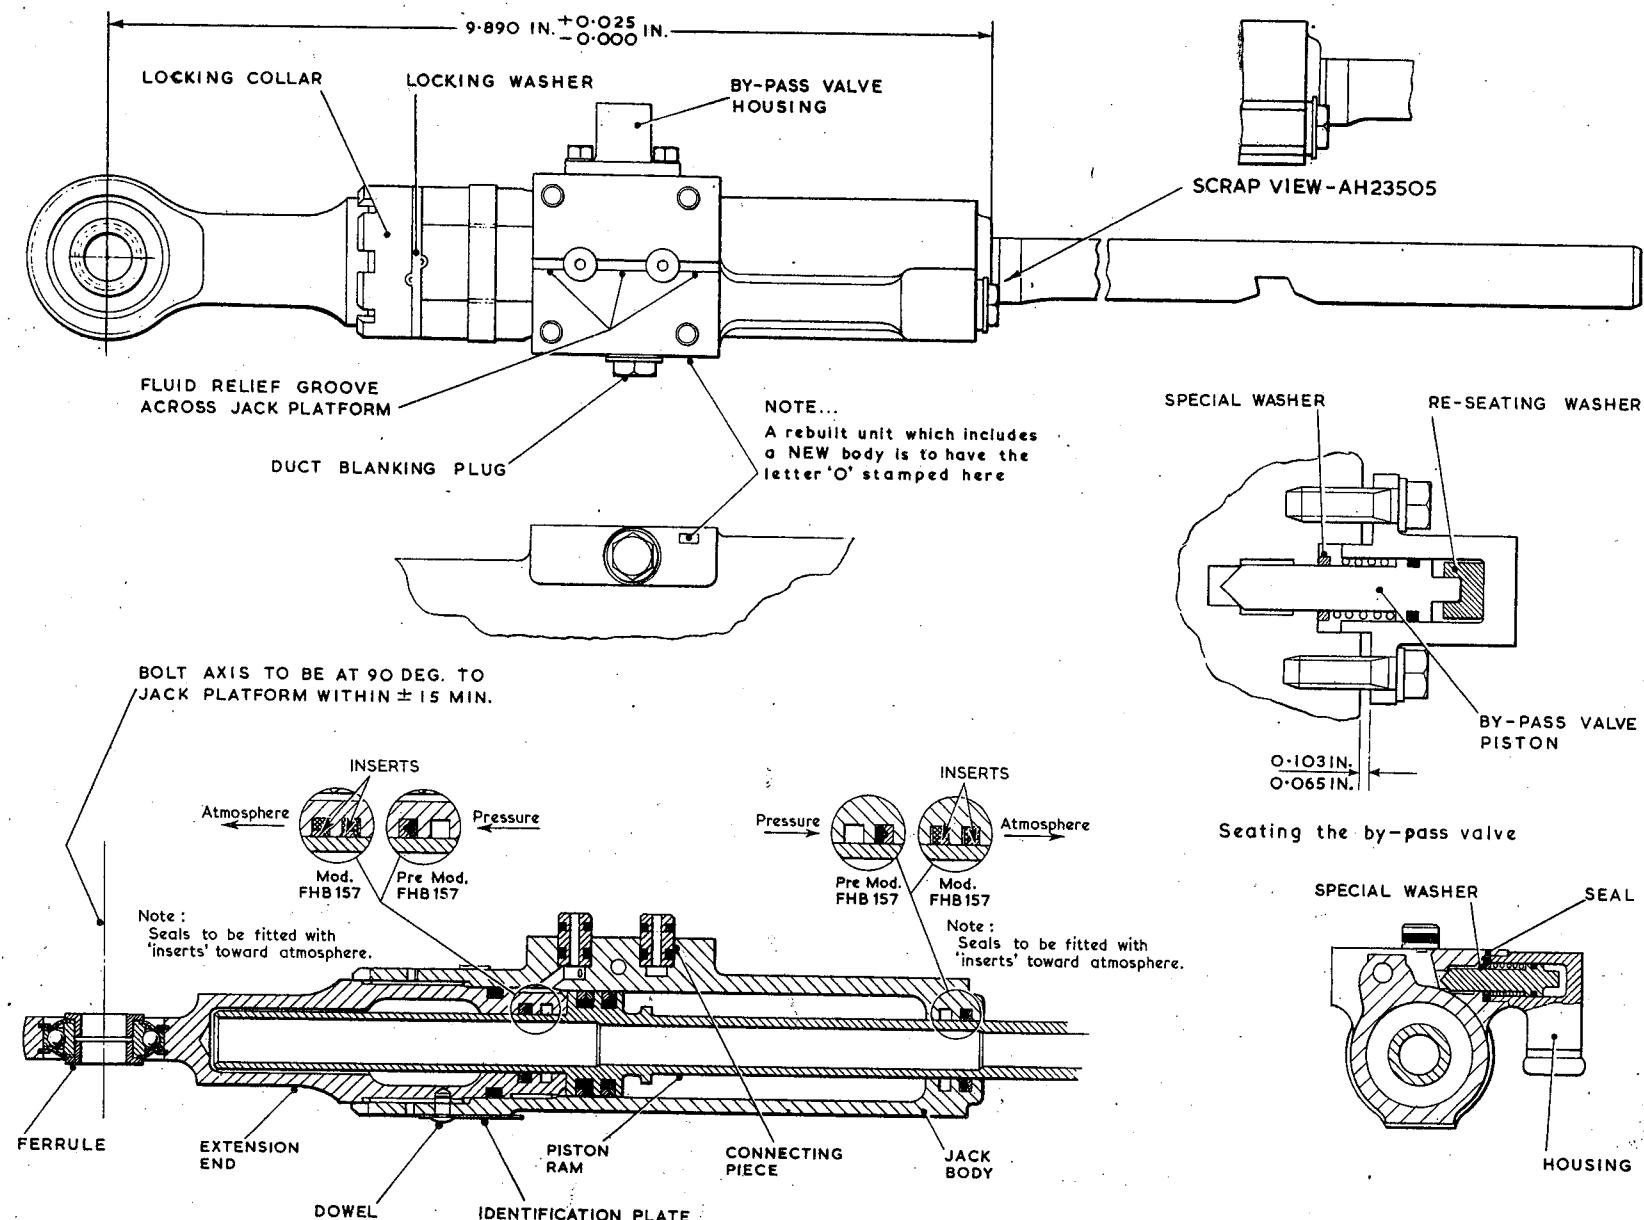

Fig 1 Jack assembly
2. Jack AH 33523 has an increase in body wall thickness in the region of the duct blanking plug (Figure 1), compared with the earlier type jack AH 23505.
(1) Ensure that the valve piston and seat are clean and free from visual defects.
(2) Position the re-seating washer HQ 2284 in the valve housing (Fig. 1), and insert the valve, complete with seal and spring, into the housing.
(3) Position the special washer in the jack body counterbore, assemble the valve and housing to the jack, and with the securing bolts screwed down finger tight only, check the clearance between the housing and the jack body. If the clearance is within the limits given (Fig. 1), then proceed in accordance with operation (4) of this paragraph. Should the clearance not be within these limits, then the procedure given in A.P. 105D-1303-6 is to be adopted.
(4) Continue to tighten the bolts evenly but not more than is necessary to achieve a satisfactory seating. In doing this, the clearance between housing and body must not be reduced by more than 0.010 in., and the torque loading of the bolts must not exceed 20 lb. in.
(5) Dismantle the valve and housing and remove the re-seating washer in preparation for final assembly (para. 13).
(1) Screw the locking collar on to the extension end and position the locking washer.
(2) Slide the ram into the jack body and screw in the extension end.
(3) With the aid of setting jig FHQ 272 or the dimensions given (Fig. 1), set the position of the extension end and align its eye end. Using hook spanner RS/181/16 tighten the locking collar but do not peen the locking washer.
(4) Remove the jack from the jig and ensure that the ram will stroke and rotate freely at all positions of the stroke.
(5) Drill into the extension end through the existing hole in the jack body; drill  $\frac{3}{16}$  in. dia. 0.23 in. deep, measured from the surface of the jack body.
(6) Dismantle the jack in preparation for final assembly.
(2) Well moisten four new ram seals with hydraulic fluid and carefully fit two into the jack body and two into the grooves of the extension end bore. Ensure that these seals are fitted so that their white inserts are toward atmosphere when the jack is assembled, as illustrated in figure 1.
If the rubber/fabric (pre Mod. FHB 157) type ram seals are still being used, then only two are fitted, one in the jack body and one in the extension end. These seals are fitted in each case with the rounded rubber face to pressure and the flat fabric face to atmosphere (fig. 1).